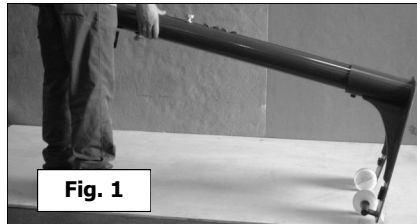

Fig. 1
4. Safely wheel posts to the point of use as shown in Fig. 1 above.